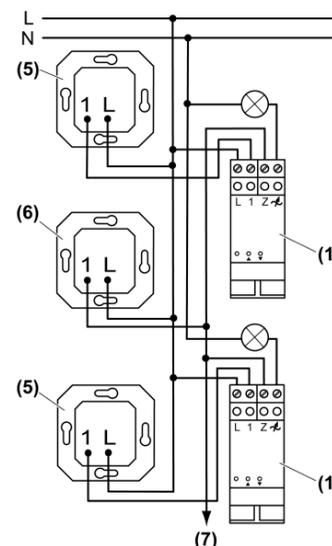

Figure 3: Connection diagram for central extension
- i** Only one 2-wire extension insert (see chapter Accessories) can be used as a central extension (6).
- Connect the dimmer (1), local extensions (5) and central extension (6) according to the connection diagram (Figure 3).
- Optionally connect central extension to additional dimmers or additional central extensions (7) (Figure 3).